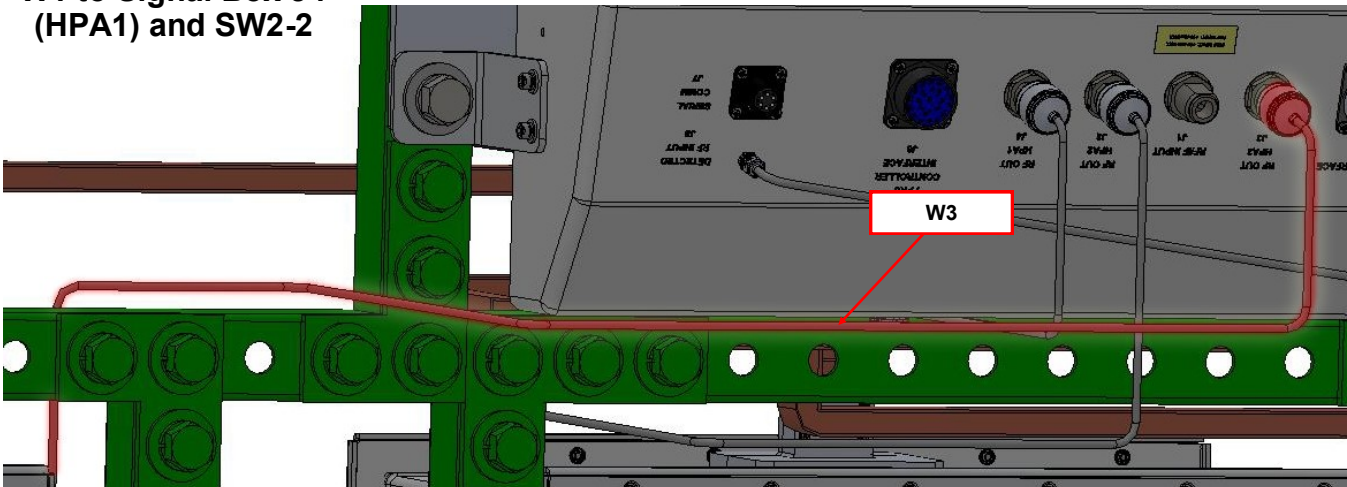

Figure 4-20: Connect W3 to Signal Box Port J3 (HPA3)
5. Locate the coaxial cables labeled W3 and W9. Connect the N-type connector of W3 to Port J3 (HPA3) of the signal box. This cable will run across the bottom of the signal box, and bend down between HPA2 and HPA3. See **Figure 4-20**. Connect the SMA connector of W3 to the SMA connector of W9. Connect the N-type connector of W9 to the RF Input Port J1 of HPA3.